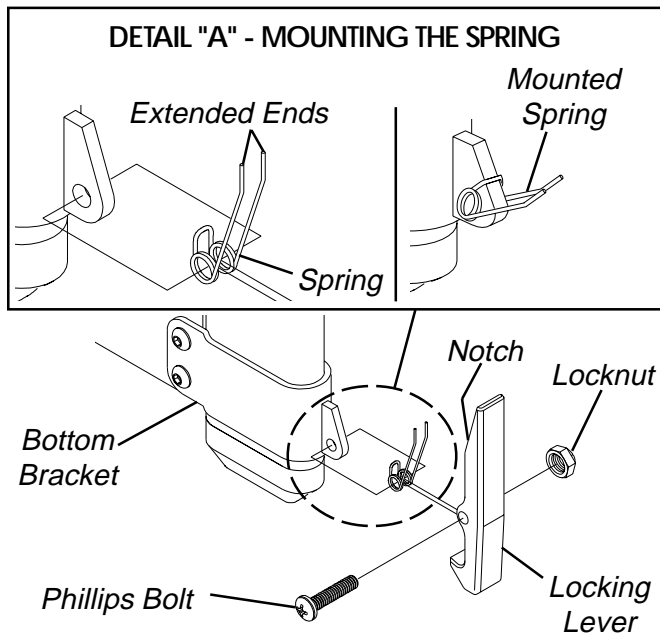

FIGURE 12 - REPLACING THE T-ARM LOCKING LEVER
REPLACING THE T-ARM LOCKING LEVER (FIGURE 12)
4. Position spring on bottom bracket as shown in FIGURE 12.